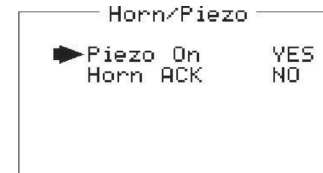

Figure 2-11. Horn/Piezo Menu
- The HA20 display PCB is equipped with a small audible piezo (P/N 1000-1892, NEMA 4X housing only) that chirps when keys are pressed providing an audible feedback to the operator. It also may be set to audibly indicate alarm conditions by selecting YES in the **Piezo On** menu option (Figure 2-11). This piezo will then mimic the Horn settings menus described in Section 2.3.1.